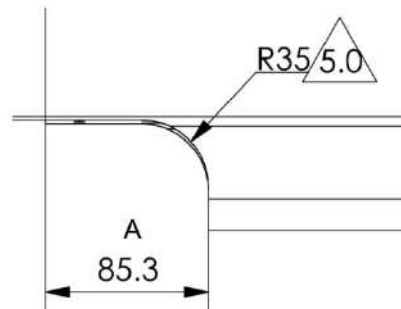

Figure 27-24: AB Blade 1 Tip side
9. Ensure that AB Blade 2 is trimmed according to drawing D1A-2.06.11 V5.0 or later. Figure 27-24 is a representation of drawing version 5.0.